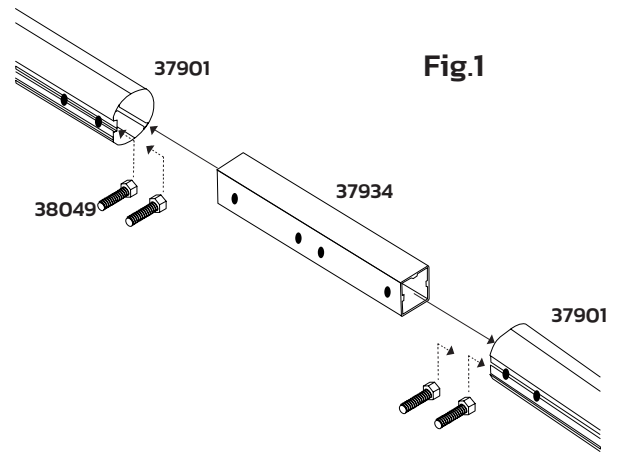

Fig.1
STEP 1 - Crossbar/Backbar (Fig. 1)